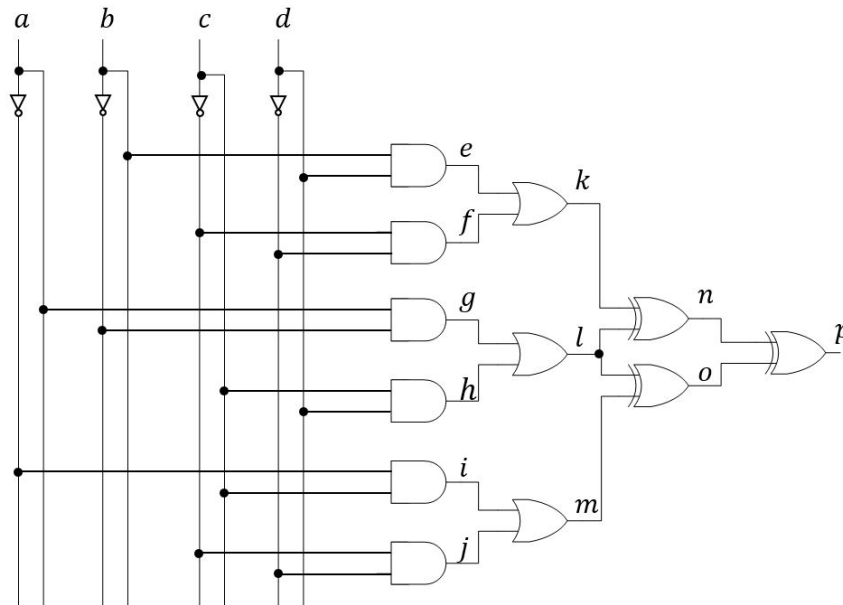
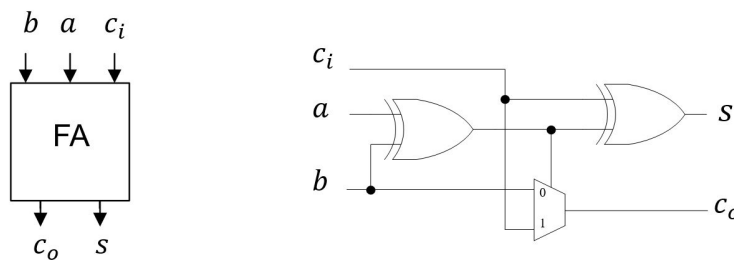

Fig. 2
Fig. 3
2 Consider the circuit shown in Fig. 2.
(b) To implement the circuit in Fig. 2 with minimum number of lookup table(s), how many inputs do each of the lookup table(s) require? Explain your answer. [20%]
Any function with 4 inputs can be implemented with a 4-input lookup table (LUT). For the LUT equivalent to circuit in Fig. 2, the inputs of LUT will be a, b, c, d and the output will be p .
- (c) If only 3-input lookup tables (3-LUTs) are available, what is the minimum number of 3-LUTs required to implement this circuit? Indicate the input and output of each LUT according to the node names in Fig. 2. Mark unused input(s) of a lookup table with X. Do not attempt to simplify the gate-level circuit shown in Fig. 2. [40%]
5 LUTs are required without simplifying the gate-level circuit shown in Fig. 2 as follows.
- (d) Using the Full-adder (FA) shown in Fig. 3, implement a logic circuit to subtract two 4-bit numbers. [20%]
Assessor's Comments: This question was about the LUTs and combinational logic circuits, which are among the fundamental building blocks of FPGA operation. Part (a) asked for the simplest expression for the node p in the LUT circuit given in Fig 2. It was pleasing that a large number of candidates could find it correctly. The main concepts of LUTs were examined in part (b), which were also mostly understood and well answered. In part (c), the 3-LUTs implementation of the circuit was asked, many students carried the results of part (a) in terms of the simplified version of the function, nevertheless they also received full mark provided that they have correctly indicated inputs and outputs of each LUT. Part (d) focused on implementing a 4-bit binary subtractor using the given full-adder in Fig 3. Again, a large group of candidates performed this implementation correctly. Overall, the question was attempted by less number of candidates, i.e., 49 out of 75, however, pleasingly answered very well with the mean of 67.2 out of 100.